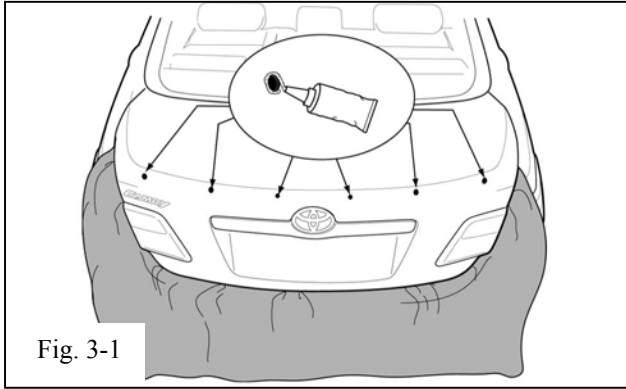

Fig. 3-1
- (b) After cleaning, carefully apply 3M Ultra-Pro Body Sealant to all drilled hole edges (Fig. 3-1) including the two tool access holes in the inner panel.